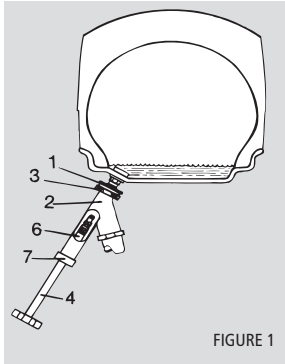

FIGURE 1
The following connections should be made when the pump is not running and with the control handle in the vertical or check position: To connect liquid fill core ejector to two-piece style rear tractor valves TR-218A, TR-618A, (figure 1), unscrew union (1) from core ejector body (2) screw on valve stem finger tight. Screw core ejector body on union (1) making sure rubber gasket (3) is in place, with handle (4) of core ejector pulled out. Push handle (4) of core ejector in until it makes contact with the core housing of the valve, then hold the core ejector in left hand, strike the handle (4) with the right hand to force the core housing in ejector chuck (6). Turn handle (4) to the left to unscrew the core housing, pushing inward lightly so you can feel the threads disengage when completely unscrewed. Then pull handle (4) out as far as it will go to retract core housing into ejector body. The handle will pull out easier if rotated while pulling, as packing nut (7) should be tight enough to prevent air or liquid leaks.